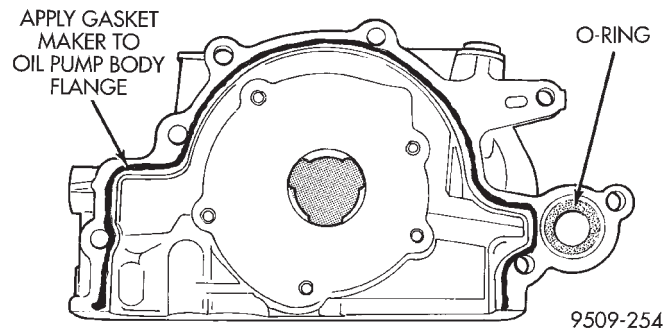

Fig. 88 Oil Pump Sealing
(2) Apply Mopar Gasket Maker to oil pump as shown in (Fig. 88). Install oil ring into oil pump body discharge passage.